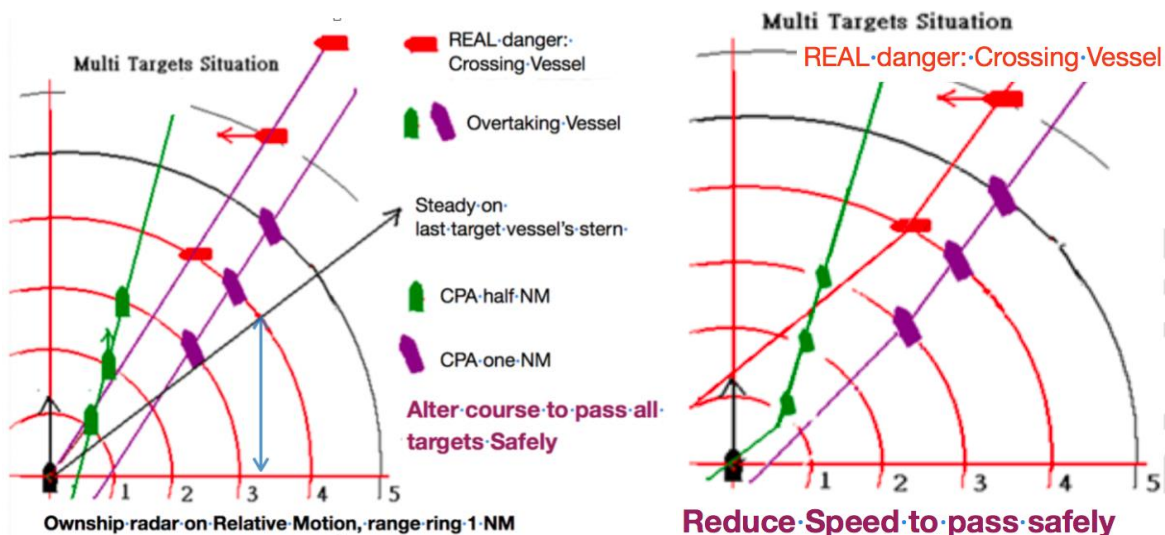

Figure 6-24: Predict Radar target’s relative movement after reduce speed
In figure 6-24, three small targets on our starboard bow at relative motion, range ring is 1 nm interval, two were overtaken (green and purple) and one was crossing (red). The overtaken vessels have safe distance of CPA=0.5 and 1.0 nm. The real collision risk is the red crossing vessel with CPA=0.
In left side of figure 6-24, how about go around all three vessels? How many abeam distance we can have?
- ⇒ Judging by figure 6-24, 52.5 degrees course change is needed to go around, red target is only 1.0 nm away. By change ownship course 52.5 degrees starboard side and sail to 4 nm distance (the point of 4 nm range ring and blue line intersected), ownship position will be 3.5 ( $52.5/15=3.5$ ) nm distance away from our original course line by theory. (from the blue line we see, abeam distance to original course line is about 3.3 nm by figure 6-24)
In right side of figure 6-24, how about reduce speed? All vessels' **RM** speed vectors will break upward.